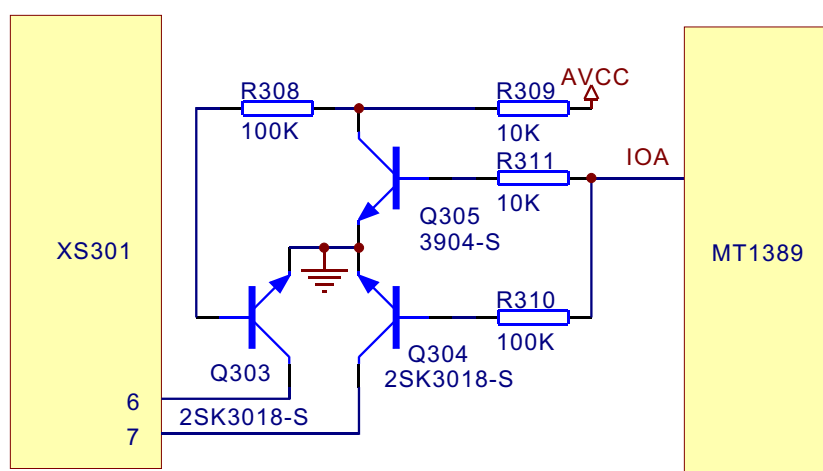

Figure 3.2.4.1 CD/DVD switch circuit diagram
1. CD/DVD switch circuit is shown in the figure 3.2.4.1: